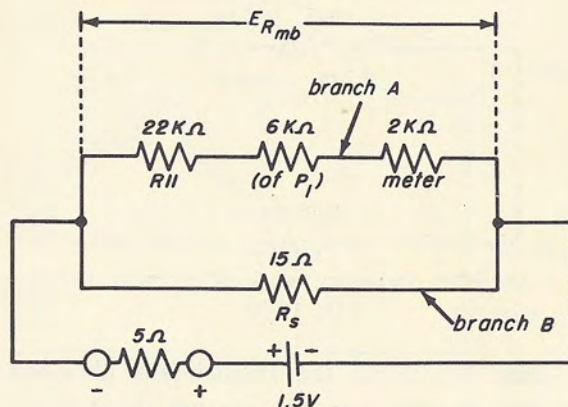
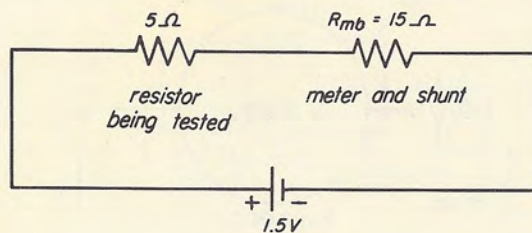

Fig. 11-24
Fig. 11-25
Step 11. Let us calculate what would happen if the test prods of the meter were connected across a 5-ohm resistor instead of across a 15-ohm resistor, as shown in Fig. 11-24. Figure 11-25 shows the simplified circuit. Using the same method as in Step 9, calculate the voltage across the meter branch and shunt, and the current flowing through the meter. Read no further until you have completed your calculations.